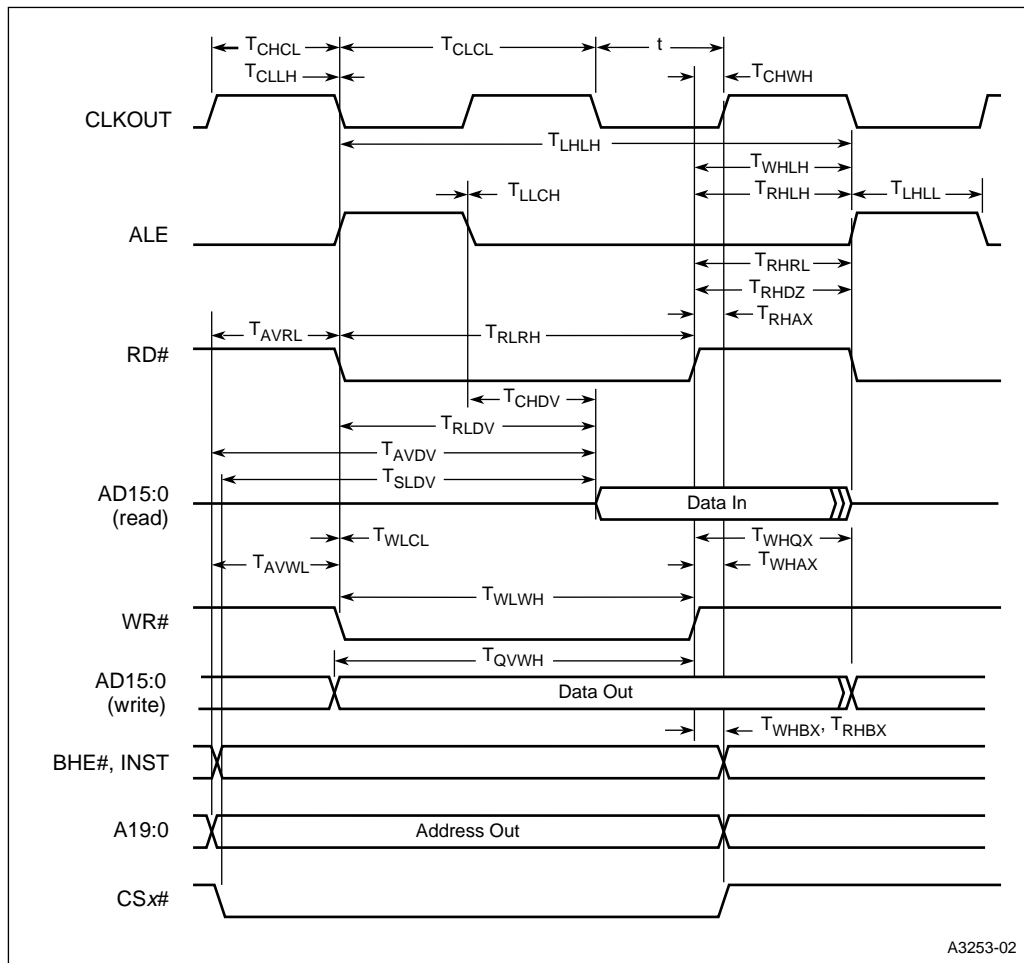

Figure 8. System Bus Timings, Demultiplexed Bus Mode
6. The READY timing diagrams (Figures 8 and 10) were replaced by examples that reflect the new T_{CH1YX} and T_{CH2YX} specifications.